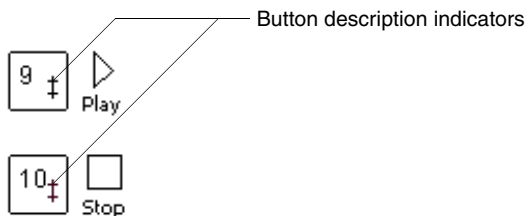

FIG. 7 Sample overlay showing button description indicators
11. Click the Save Program File button to save your changes. FIG. 7 shows a sample overlay and the indicators that appear on buttons that have descriptions.